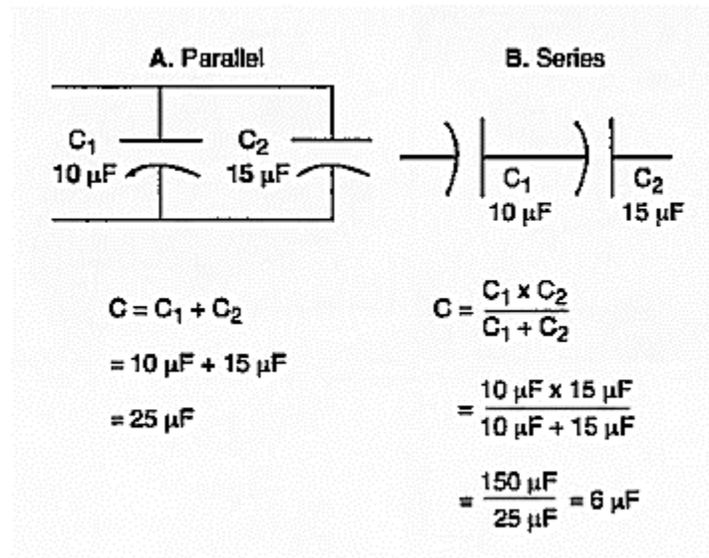

Figure 6.12: Connecting Capacitors
- When capacitors are connected in *parallel*, as shown at the left in Figure 6.12, their combined capacitance equals the sum of the capacitances of all the individual capacitors.
- When capacitors are connected in *series*, as shown at the right in Figure 6.12, their combined capacitance is less than that of the lowest-value capacitor in the group.